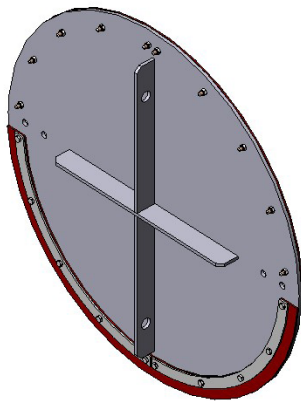

Fig. 13
- **Seat 2:** Metal/metal seal. This type of seal includes rims in the shape of a half-moon welded inside the body. The swing check closes against these rims, making a metal/metal seal (fig. 13). The estimated leak is 2% of the pipe flow. The thickness of these rims means they can be handled easily to adjust the swing check. We therefore calculate that this type of seal achieves watertight integrity of 98%.